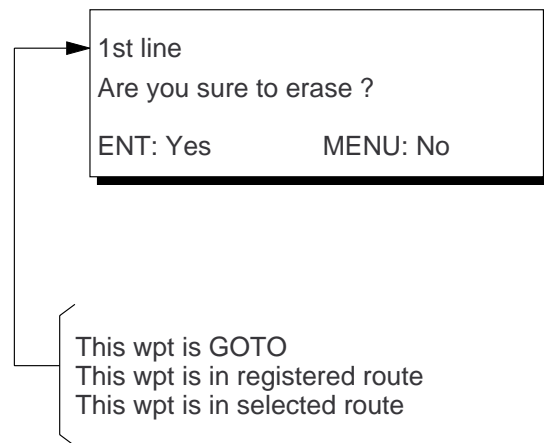

Figure 4-12
- 5) Press the [NU/CU ENT] key. The message shown in Figure 4-12 appears if the waypoint is currently selected as destination, is part of a route, or is in the route currently selected as destination.